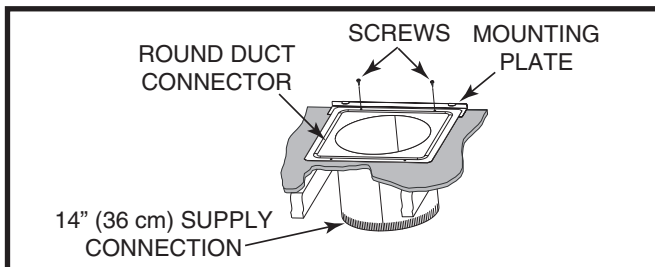

Figure 9. Round Duct Connector Installed
- Install the mounting plate under the back side of the duct connector. See Figure 9 \(page 8\). **NOTE:** Align the screw holes in both components.